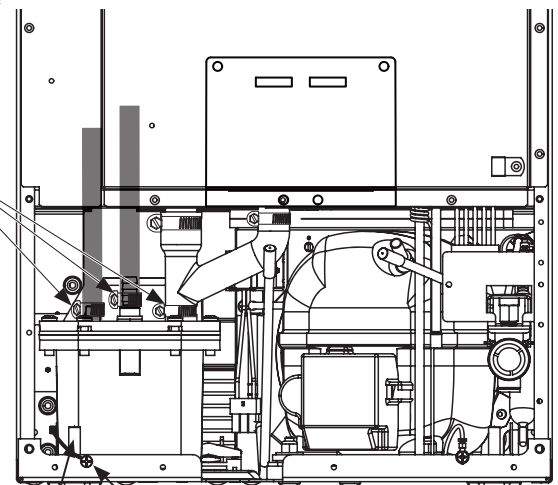
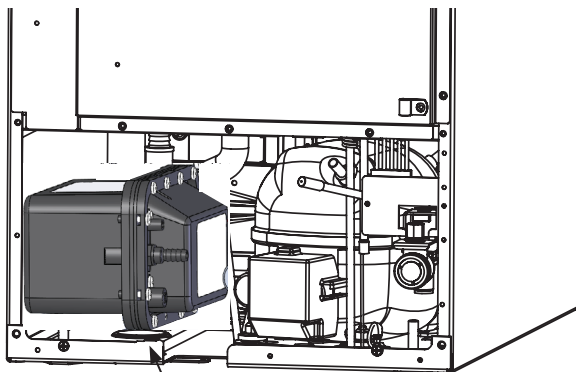

Figure 51
Figure 55
4. Unscrew the 3 hose clamps and remove the 3 hoses from the front of the drain pump. (See Figure 51).
5. Unscrew the leveling leg in the back corner until the end of the threaded portion is flush with the threaded nut insert in the base. (see Figure 51).
6. Rotate the drain pump and remove from the ice machine, (See Figure 55). It may be necessary to disconnect the ground wire connection in the back flange of the cabinet. (See Figure 51).